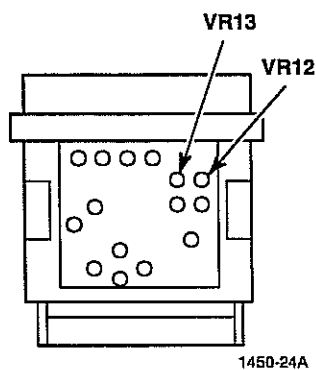

Figure 3-20.
- b. Adjust VR12 (Figure 3-20) for 1.50 VDC \pm 0.05 VDC.
- b. Adjust VR13 (Figure 3-20) for 1.50 VDC \pm 0.05 VDC.